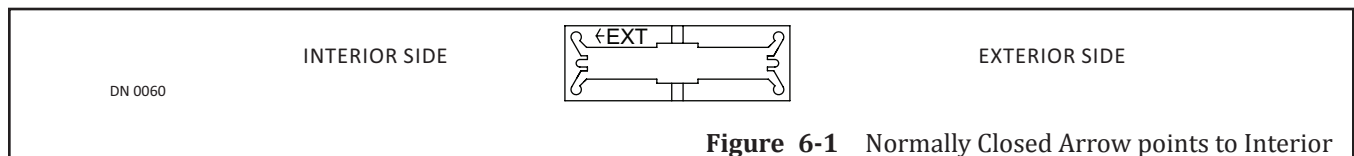

Figure 6-1 Normally Closed Arrow points to Interior
3. Ensure that the ← EXT arrow points to the Interior side of the building. Panic Breakout Limit Switch will CLOSE when door is broken out. Please see Figure 6-1.
3. Ensure that the EXT → arrow points to the **Exterior** side of the building. Panic Breakout Limit Switch will OPEN when door is broken out. Please see Figure 6-1.